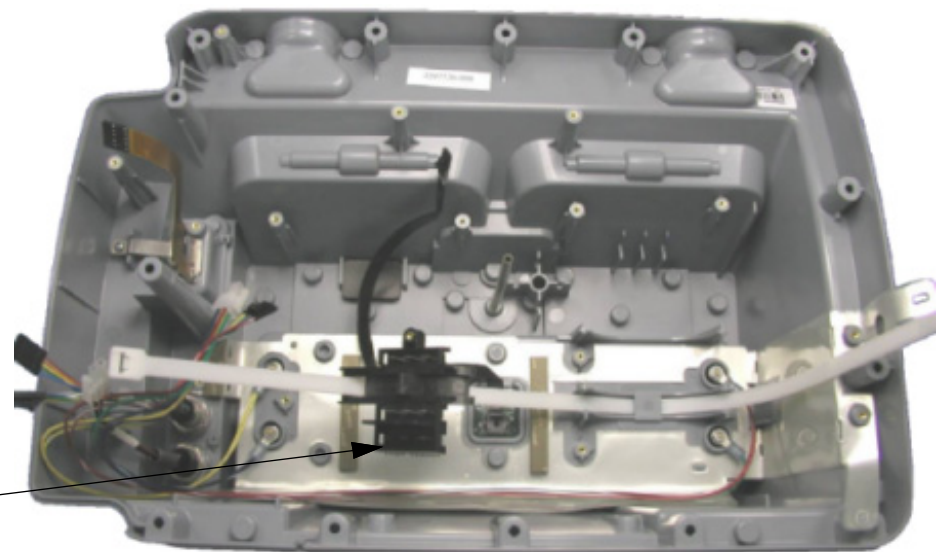
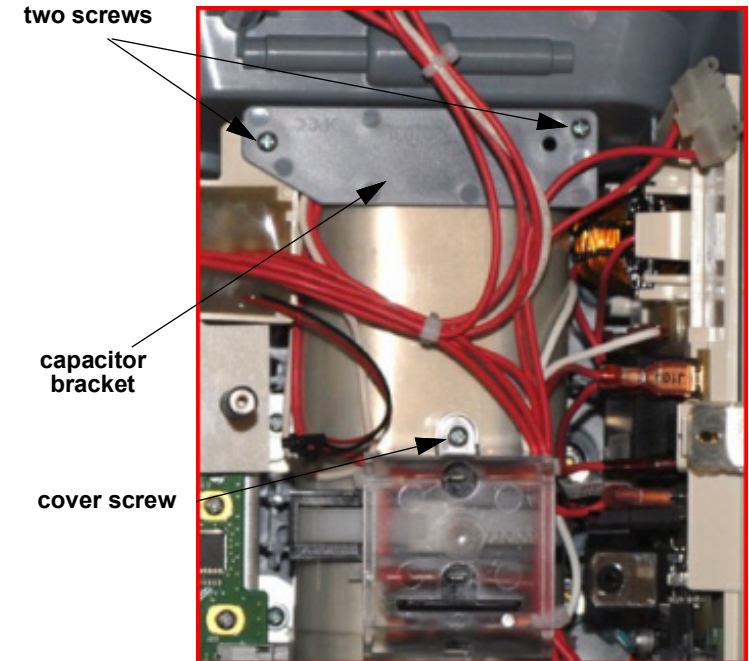

Figure 8.78—Interconnect bracket location
Figure 8.79—Interconnect bracket screw locations
Refer to Figure 8.78 on p. 284.
Refer to Figure 8.78 on p. 284 and Figure 8.79 on p. 285.
4. Secure the clear plastic high-voltage shield (REF M53) to the interconnect bracket with one new screw (REF F06); torque to 6.8 in-lb (see Figure 8.79 on p. 285).
5. Secure the capacitor bracket (REF M33) with two new screws (REF F06); torque to 6.8 in-lb (see Figure 8.79 on p. 285).